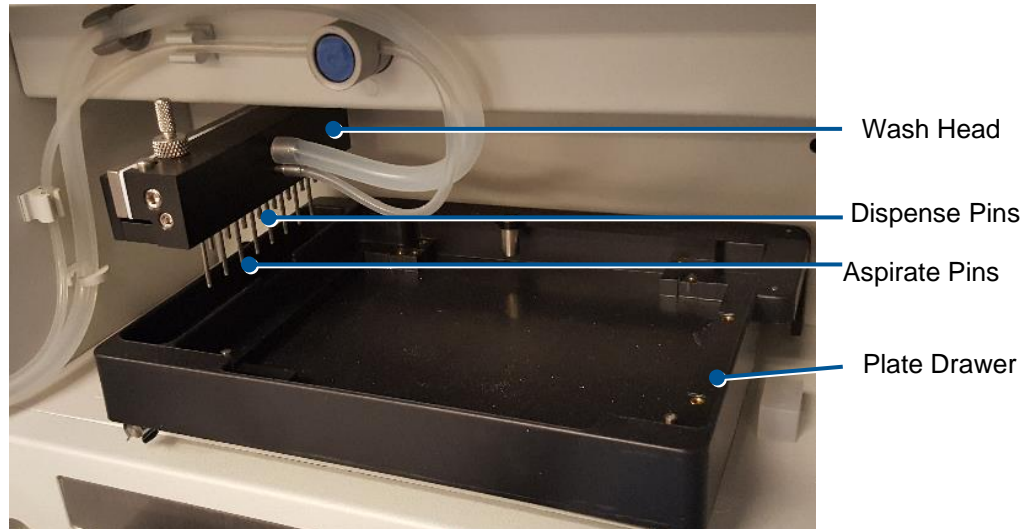

Figure 12: Wash Head with Wash Pins
► **Note:** Shape of wash head may differ from Figure 12.